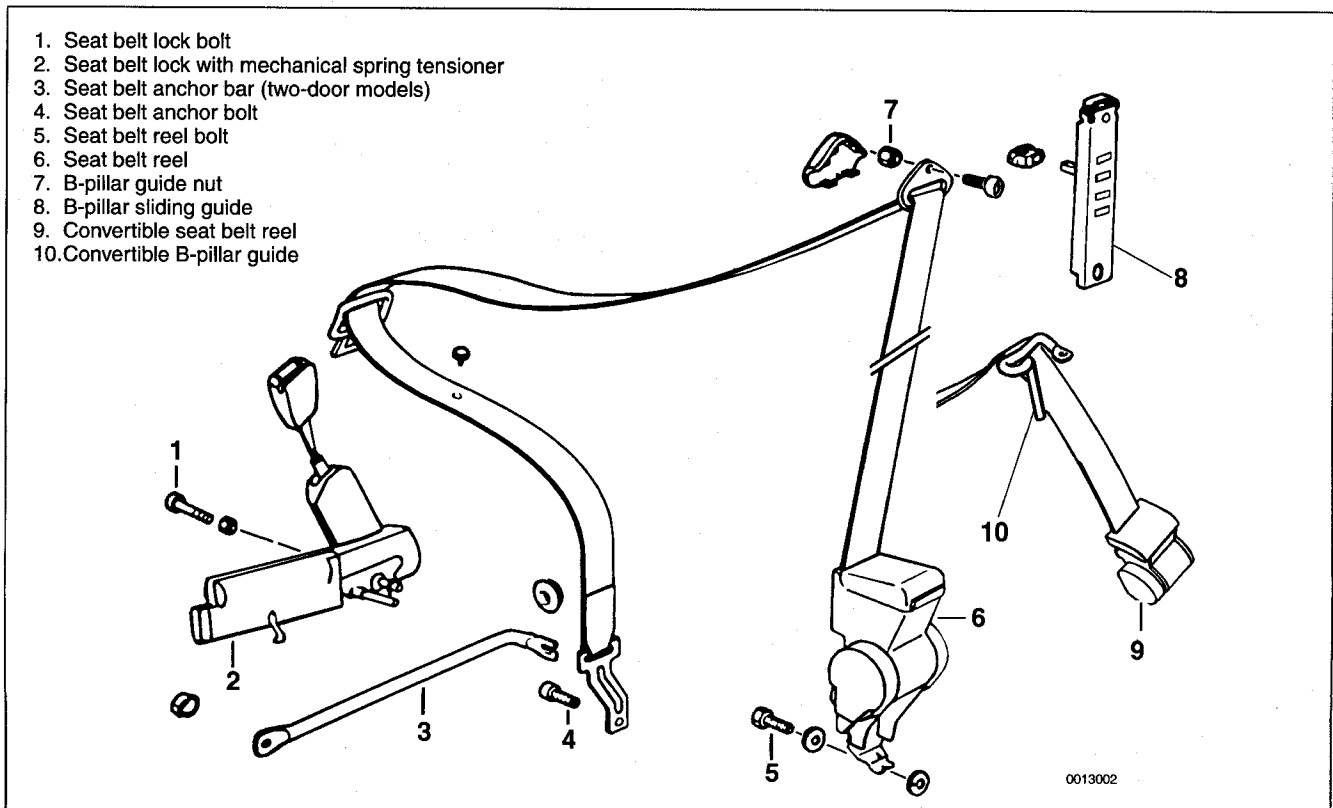

Fig. 1. Front seat belt components.
Automatic seat belt tensioners are integrated into the front seat belt locks. Through the 1996 model year cars, a mechanical spring tensioner is used. See Fig. 1. On 1997 and later cars, a pyrotechnic (explosive charge) tensioner is used. Automatic seat belt tensioners are designed to automatically re-
1. On 4-door models: Remove seat belt anchor bolt from front seat. Refer to Fig. 1.